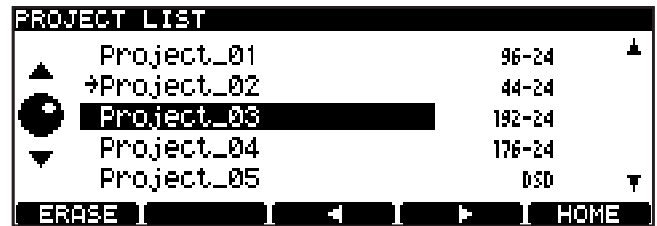

Figure 6.6: Loading a project
When you insert a disc on which multiple project have already been recorded and select ODD mode, the project list screen appears. (See Figure 6.6, *Loading a project*) Select a project you wish to open.
- 2 Highlight the OPEN sub-menu to show a list of the names of all projects on the disc, together with their sampling frequencies (see Figure 6.6, *Loading a project*).
The current project is shown with an arrow beside the name (see Figure 6.6, *Loading a project*).